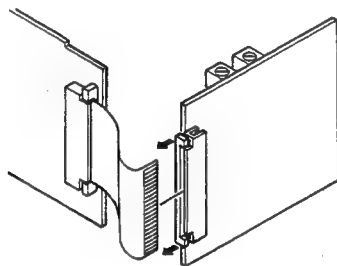

Figure 3 Removing the flexible wire
- (1) Remove the flexible wire in Figure 3. (Pull the stopper in the direction of the arrows.)